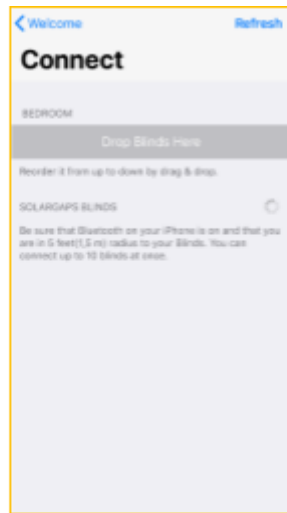

Figure 5
**10.2.3.2.** The application is searching for the BLINDS (Fig. 5).